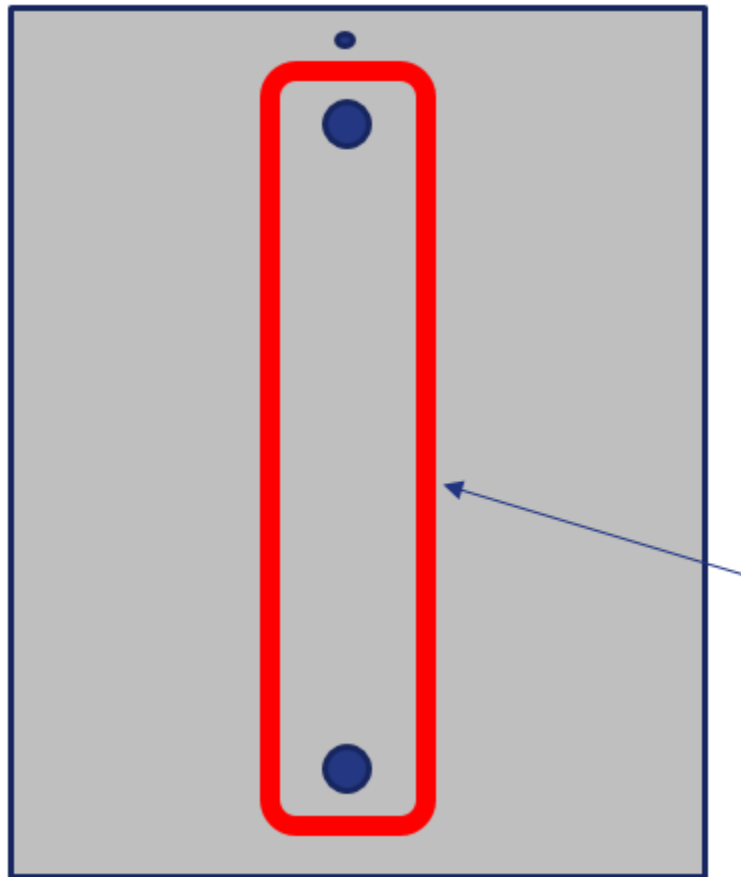

Fig 3.
6. Apply Pilogrip 7779 to the fabricated plate. Follow the pattern in Fig 3. The bead applied should be between 3-5mm diameter on the plate. Total width of both beads on the plate should not exceed 43mm wide (to cover the bulkhead rib width).